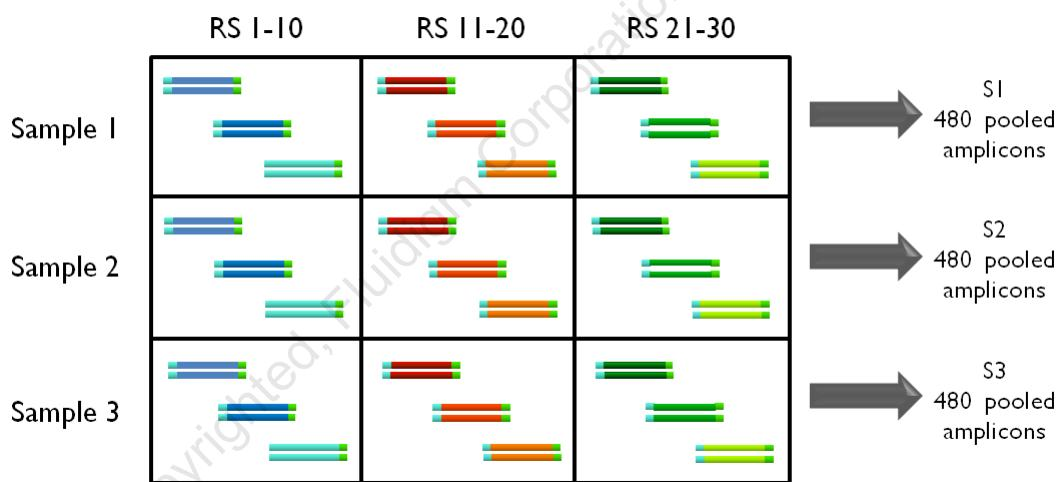

Figure 1 Multiplex Amplicon Tagging
Amplicon tagging on the Access Array™ System provides a simple path to generating sequencer-ready PCR products. During PCR, sequencer-specific tags and sample-specific barcodes are added to each of the PCR products, reducing the time required for enrichment of target sequences ahead of sequencing. The number of PCR products generated per sample on an Access Array IFC can be increased by an order of magnitude by multiplexing primer pairs in each PCR reaction on the chip. This protocol describes the generation of Illumina compatible libraries, containing up to 480 amplicons per sample. The procedure follows a two-step approach: In the first step (Figure 1), carried out on the 48.48 Access Array IFC, target regions are amplified with target-specific (TS) primer pairs that have been tagged with common sequence tags (Table 1). Each PCR reaction contains up to 10 primer pairs. The amplification is carried out on a FC1 Cycler. After harvesting the PCR products from the 48.48 Access Array IFC, the second PCR step is carried out in a 96-well PCR plate which introduces a sample-specific barcode and the Illumina adaptor sequences. By incorporating sample-specific barcodes, all 23,040 PCR products from a 48.48 Access Array IFC are unique and thus can be pooled.